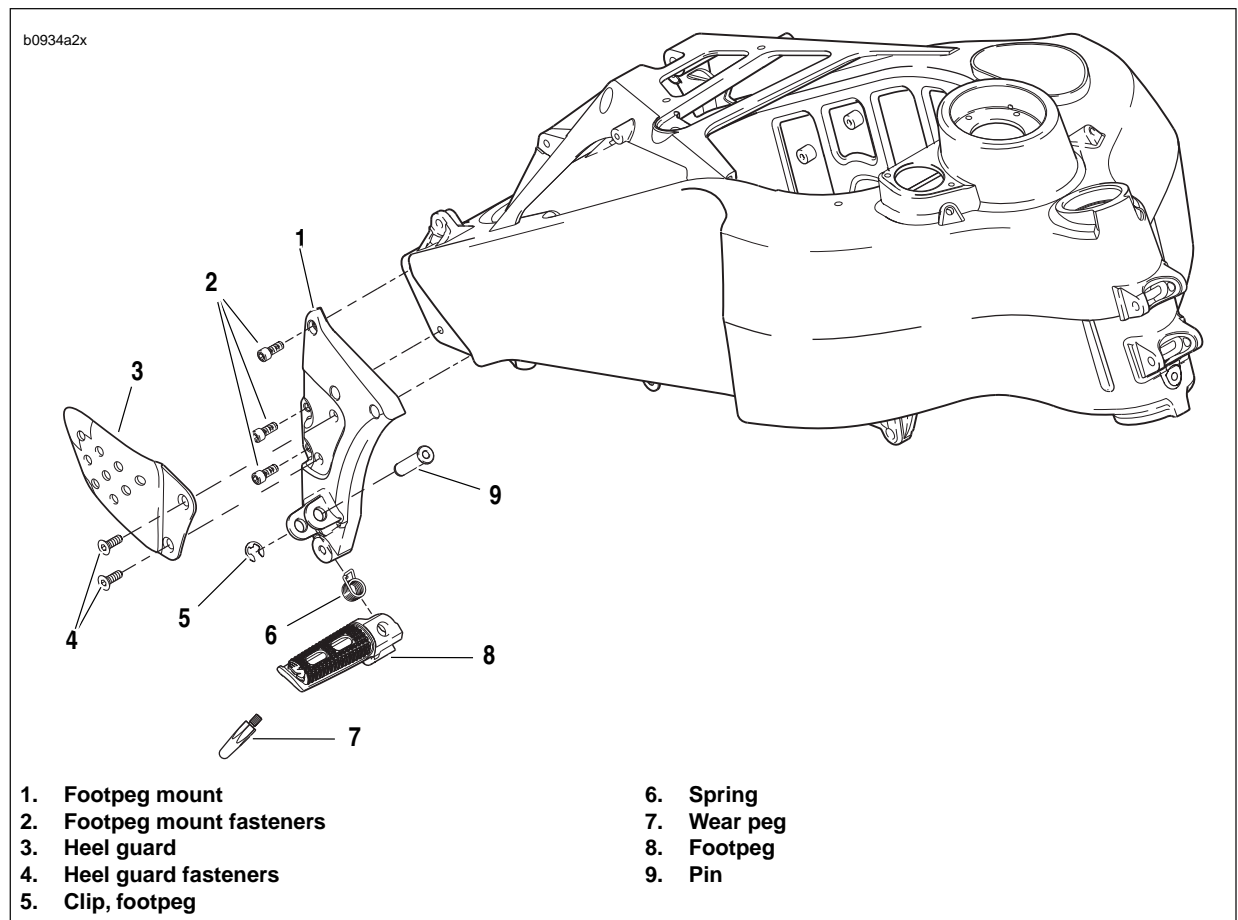

Figure 2-110. Rider Footpeg, Mount and Heel Guard Assembly
1. See Figure 2-110. Remove wear peg from end of footpeg assembly.
1. See Figure 2-110. Remove clip (5).
2. Remove footpeg pin (9).
3. Remove footpeg (8).
1. See Figure 2-110. Remove heel guard fasteners (4).
2. Remove heel guard (3).
1. See Figure 2-110. Remove footpeg mount fasteners (2).
2. Remove footpeg mount (1).
1. See Figure 2-110. Position footpeg mount (1).
2. Install footpeg mount with fasteners (2). Tighten to 132-144 **in-lbs** (14.9-16.2 Nm).
1. See Figure 2-110. Position heel guard (3) onto footpeg mount (1).
1. See Figure 2-110. Position spring (6) in footpeg (8).
2. Position footpeg (8) and spring in footpeg mount (1).
3. Install footpeg pin (9).
4. Install clip (5).
1. See Figure 2-110. Apply LOCTITE 271 (red) and tighten to 36-48 **in-lbs** (4-5 Nm).